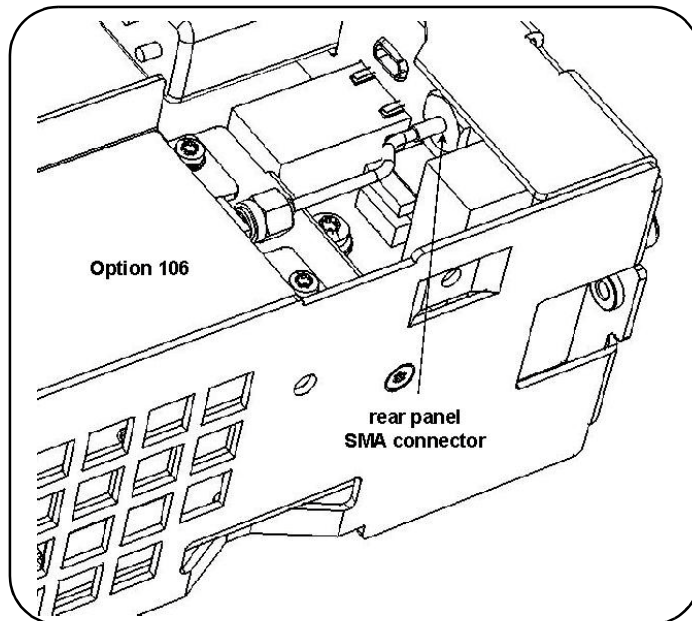

Figure 24. Channel 3 Assembly with Rear Panel SMA Connector.
4. Set the Channel 3 assembly down on top of the motherboard so that the SMA edge connector is towards the rear panel. The front flange on the right-front of the Channel 3 assembly bracket must rest on the tab protruding from the front panel (see Figure 24).